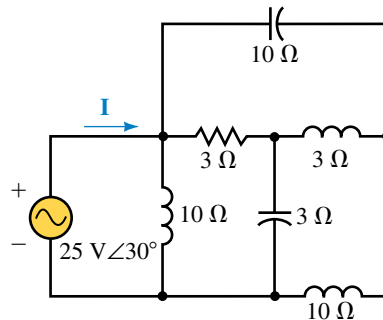

FIGURE 19–68
27. Refer to the circuit of Figure 19–69: